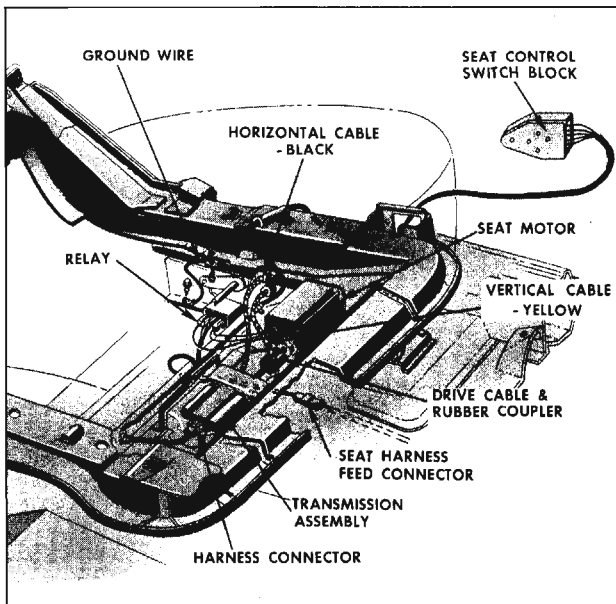

Fig. 16-91 Bucket Seat (Four-Way)
from which cables are being removed and remove cables from seat assembly. (Fig. 16-91)
2. Disconnect wire harness connector from transmission. (Fig. 16-91)